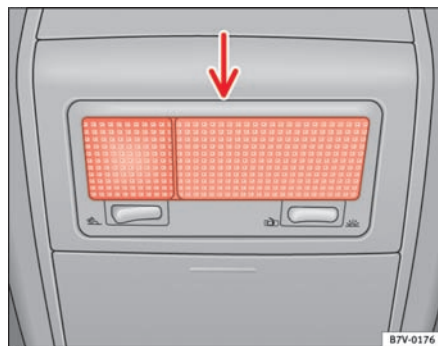

Fig. 170 Interior light
- Insert a fine screwdriver or similar between the casing and the glass (arrow) ⇒ fig. 170 and carefully remove the glass.